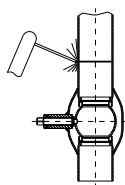
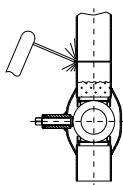
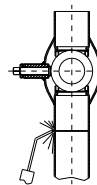

Figure 2a.
Figure 2b.
Figure 3.
- 3.1.6 When welding the valve into vertical piping, the valve shall be open when the upper seam is welded (Fig. 2a). If the valve is closed when the upper seam is welded, it must be filled with water (Fig. 2b). In gas welding the valve shall be closed when welding the bottom seam (Fig. 3). If gas welding is employed, make sure the valve does not become too hot, cf. 3.1.9.